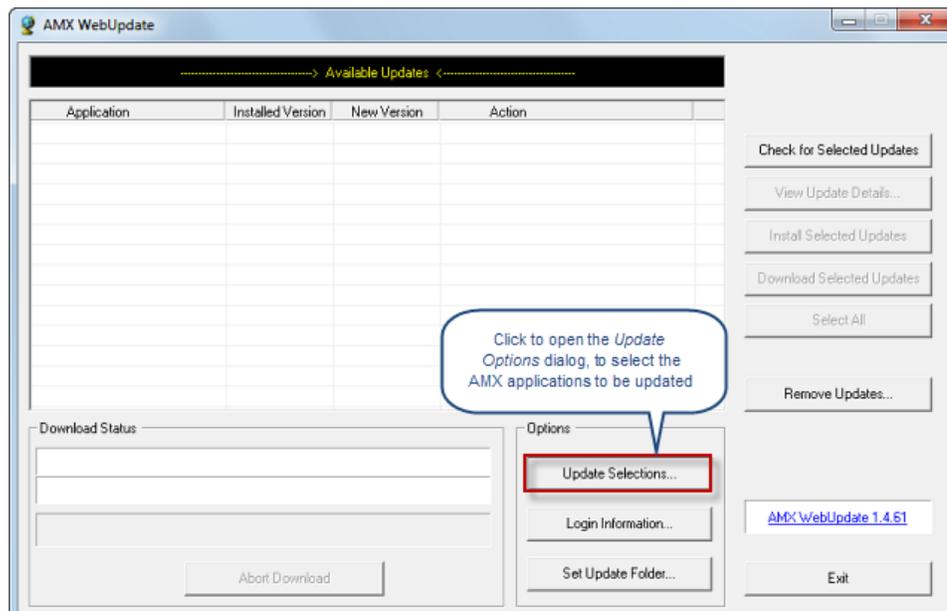

FIG. 94 WebUpdate
2. Click **Update Selections** (FIG. 94):